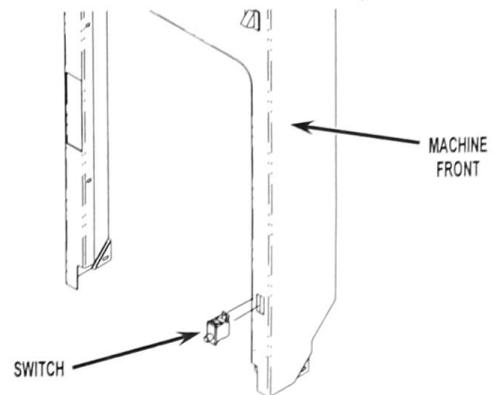

FIGURE 4
6. Attach new switch to machine front. See *Figure 4*.